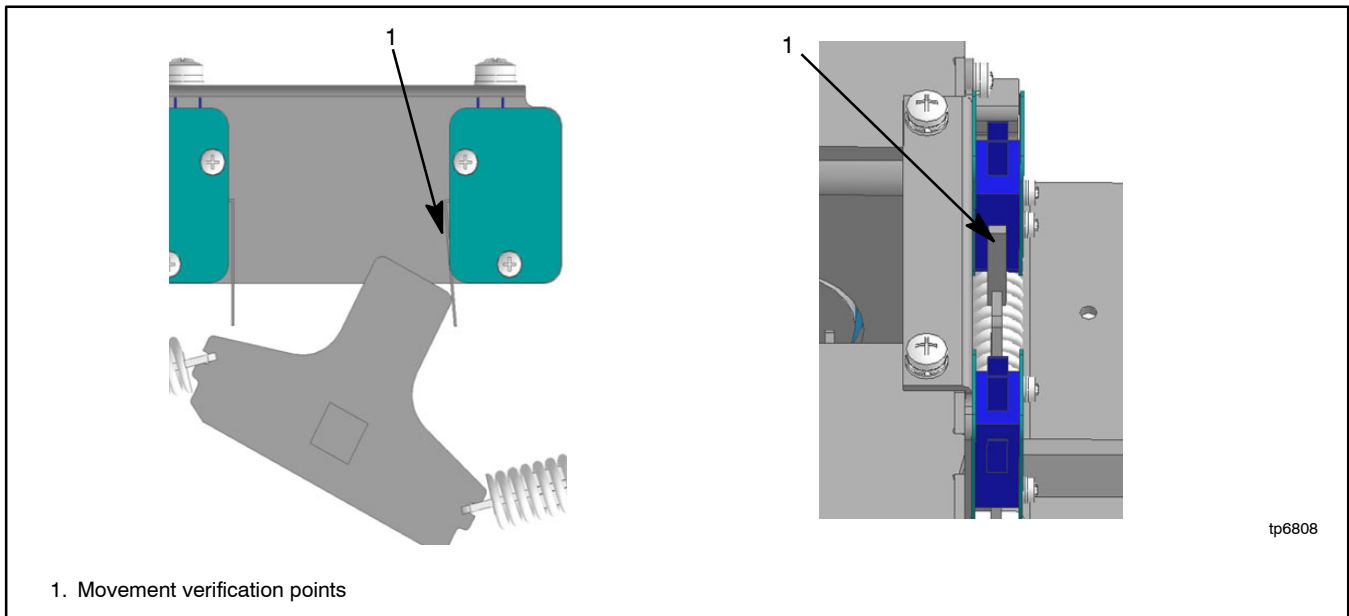

Figure 7-50 Microswitch Movement
3. Check to see if there is a clearance with the microswitch lever by pressing the movement verification point indicated in Figure 7-50. Check the other side also by switching the T-shaped lever to the other side. Even if you replaced only one of the microswitches, it is necessary to check the clearance on both sides.